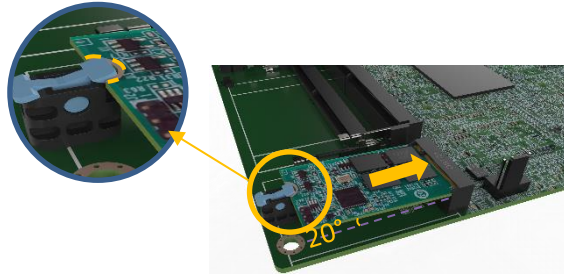

Figure 4-5: Securing the M.2 Module
Step 5: Press the M.2 module down until it is secured into place by the retainer. (See **Figure 4-5**)